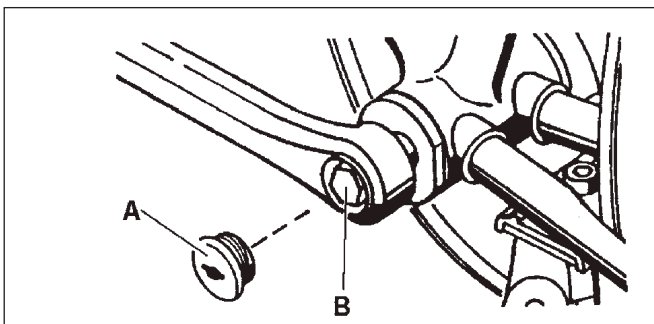

Fig. 29
If the pedal crank is loose, unscrew or remove the protective cover (Fig. 29-A). Retighten the clamping screw (Fig 29-B) with a socket wrench. Screw or clip the protective cover (A) back in place. You will need a puller for the removal of the pedal crank. These are available for purchase in hardware stores.